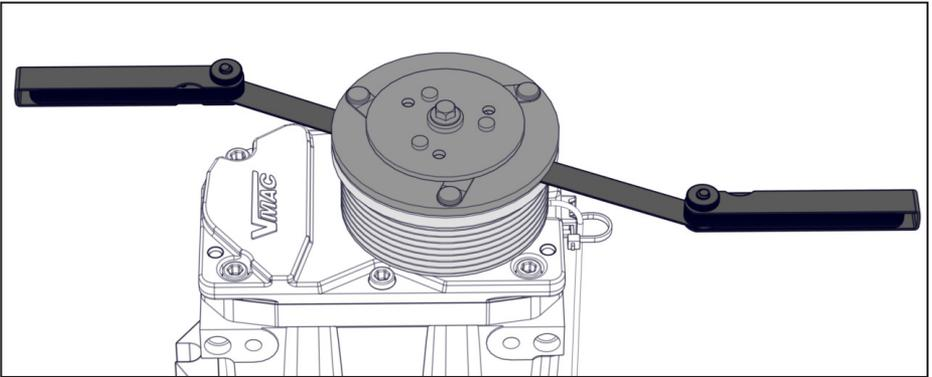

Figure 14 — Measure air gap
- Measure the air gap between the compressor rotor assembly and the armature using (x2) feeler gauges. The gap must measure between 0.016 in (0.4 mm) and 0.023 in (0.6 mm) (Figure 14).